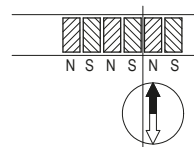

Fig. 11: Determination of the pole position. Cutting the magnetic strip
- If necessary, use a compass needle to determine the location of the poles on the magnetic strip (fig. 11).